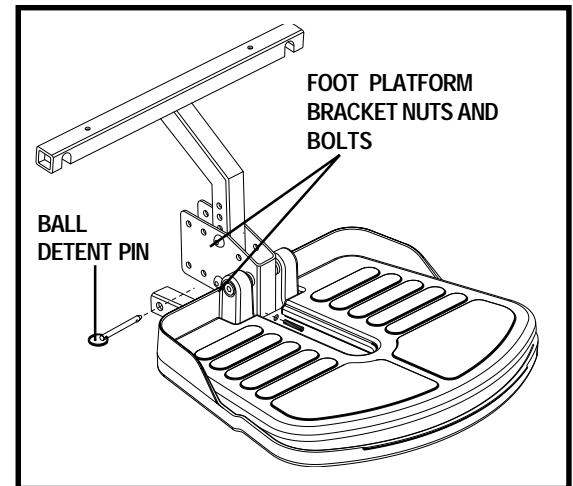

Figure 17. Foot Platform Height Adjustment
1. Remove the nuts and bolts from the foot platform bracket. See figure 17.